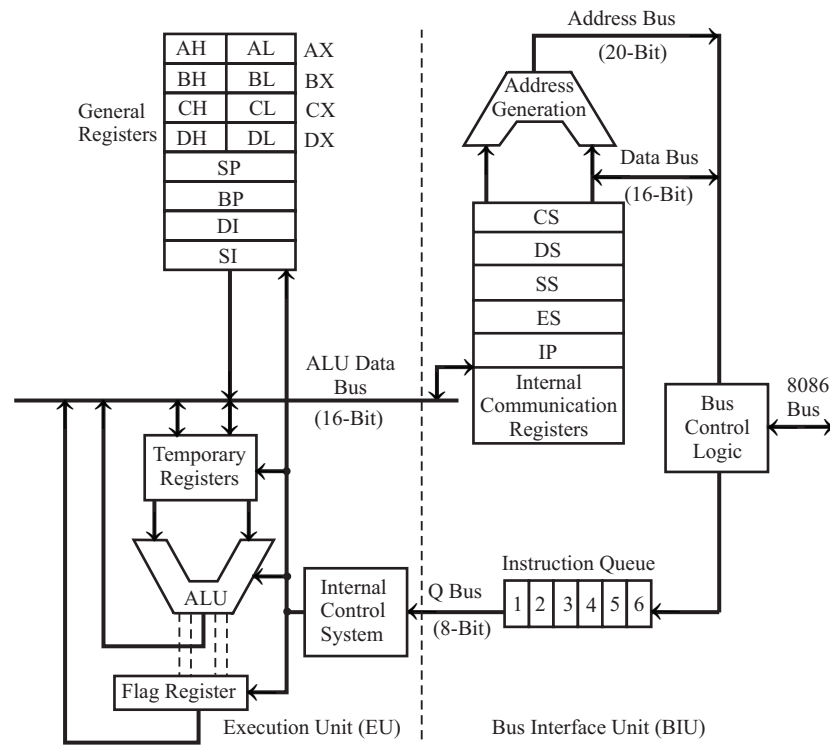

Fig. 1.2 : Internal architecture of 8086.
The 8086 has a pipelined architecture. In pipelined architecture, the processor will have a number of functional units and the execution time of each functional unit overlaps. Each functional unit works independently most of the time. The simplified block diagram of the internal architecture of an 8086 is shown in Fig. 1.2. The architecture of the 8086 can be internally divided into two separate functional units: **Bus Interface Unit (BIU)** and **Execution Unit (EU)**.